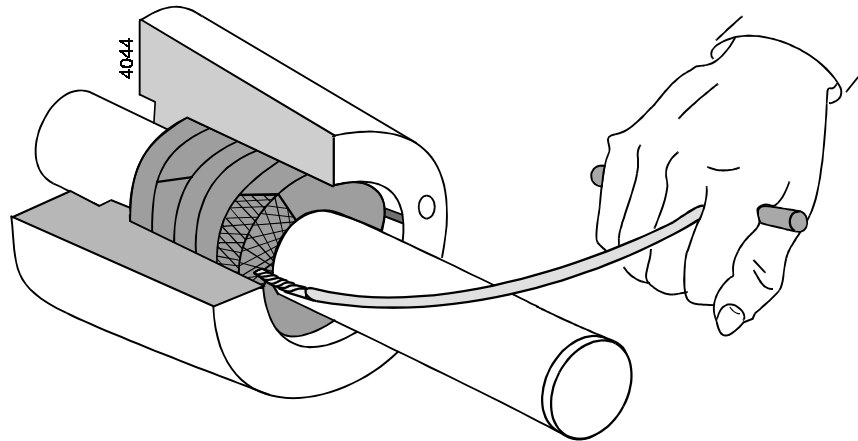

figure 6: *Removing gland packing rings.*
- 2 Remove the packing rings from the packing housing. Use the special packing puller for this, see figure 6.
- 2 Remove the packing rings (0140) from the gland. Use the special packing puller for this, see figure 6.